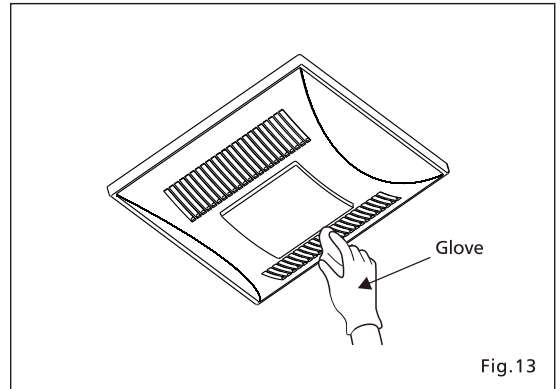

Fig. 13
1. Clean grille. (Don't put into water over 140°F (60°C). Use non-abrasive kitchen detergent, wipe dry with clean cloth.) (Fig. 13)